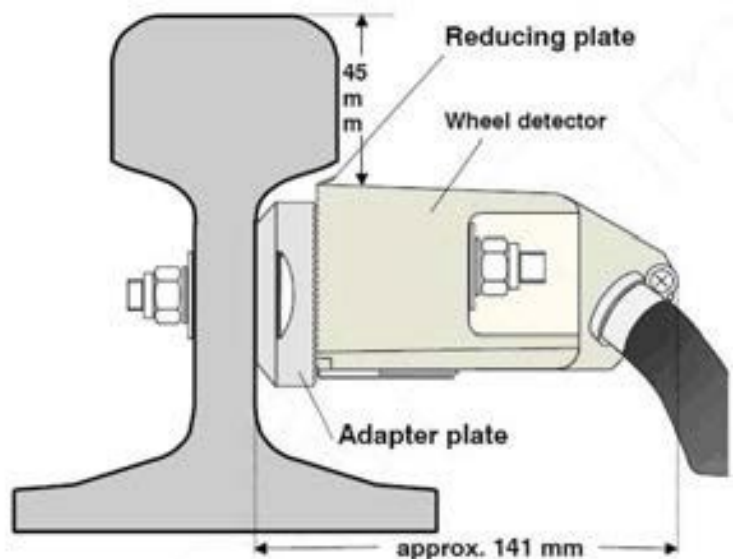

Figure 1 – Wheel Sensor Mounted on Rail
- 1.3 Check the height from the top face of the wheel sensor to the rail surface is 45 mm +/- 1 mm. (See Figure 1) Adjust height as necessary. Tighten bolts using a torque wrench to 70-80 NM.